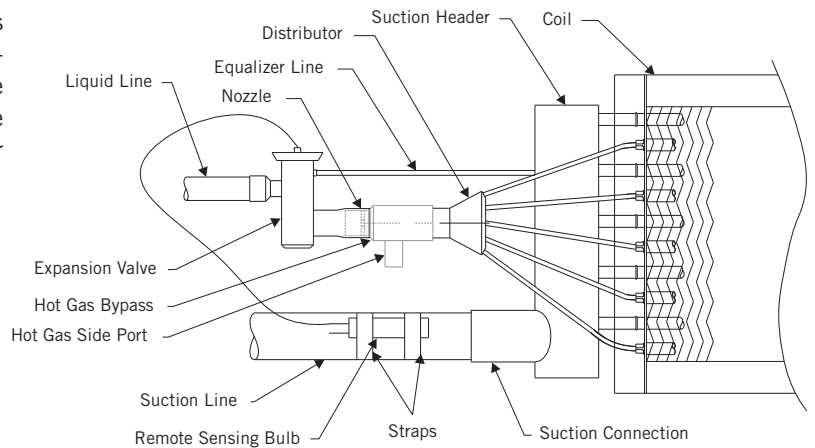
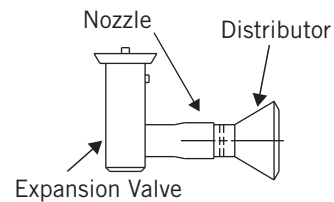

Figure 4. Hot Gas Bypass Kit Installed
Figure 5. Without Hot Gas Bypass Kit
15. Refer to Figures 4 - Hot Gas Bypass Kit Installed and Figure 5 - Without Hot Gas Bypass Kit, for general piping.